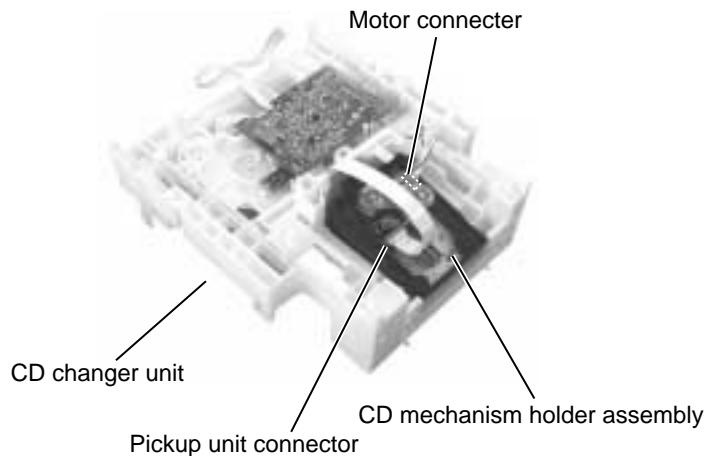

Fig.11
■ Removing the CD mechanism holder assembly (mechanism included) (See Fig.11 to 14)